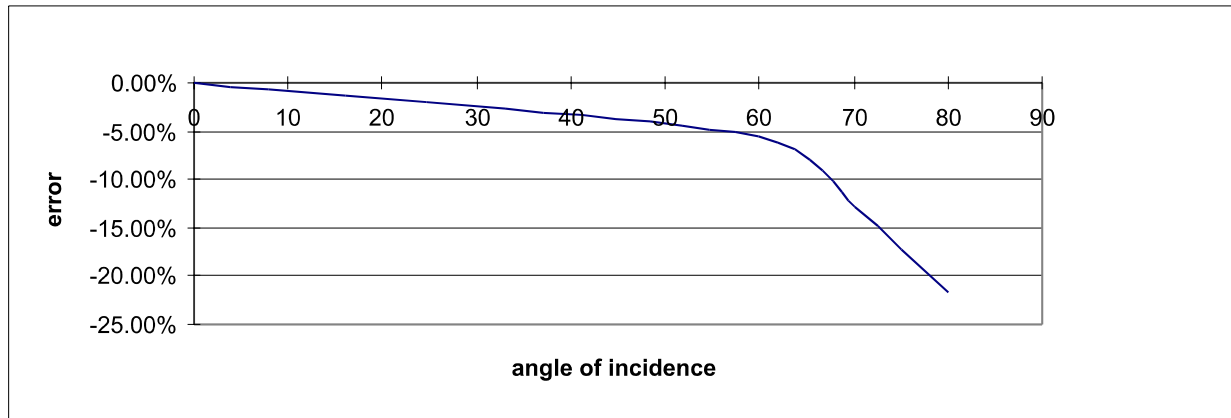

Figure 3 *The directional response or cosine response of the net radiometer.*
A perfect cosine response will show maximum sensitivity (1) at an angle of incidence of 90 degrees (perpendicular to the sensor surface) and zero sensitivity at an angle of incidence of 0 degrees (radiation passing over the sensor surface). In between 90 and 0 degrees the sensitivity should be proportional to the cosine of the angle of incidence. Figure 3 shows the behavior of a typical net radiometer. The vertical axis shows the deviation from ideal behavior, expressed in percentage deviation of the ideal value.